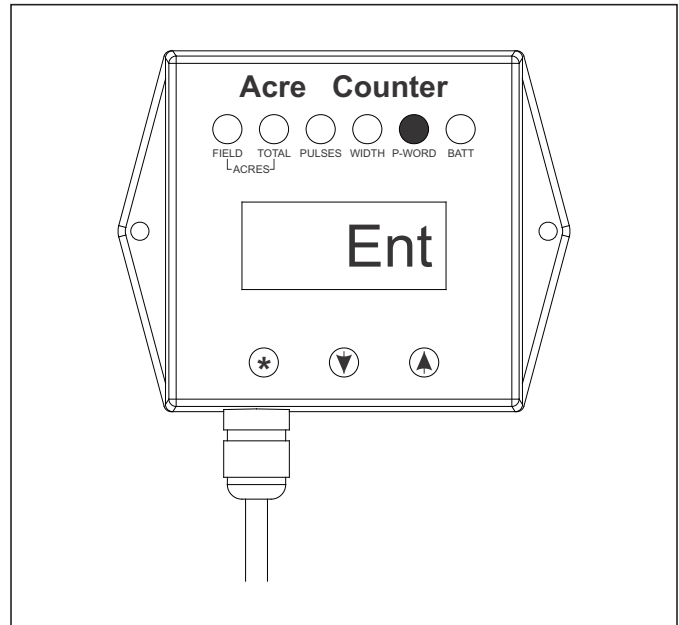

Figure 4-51: Enter Password
2. If the display shows “**Ent**” *See Figure 4-51.*